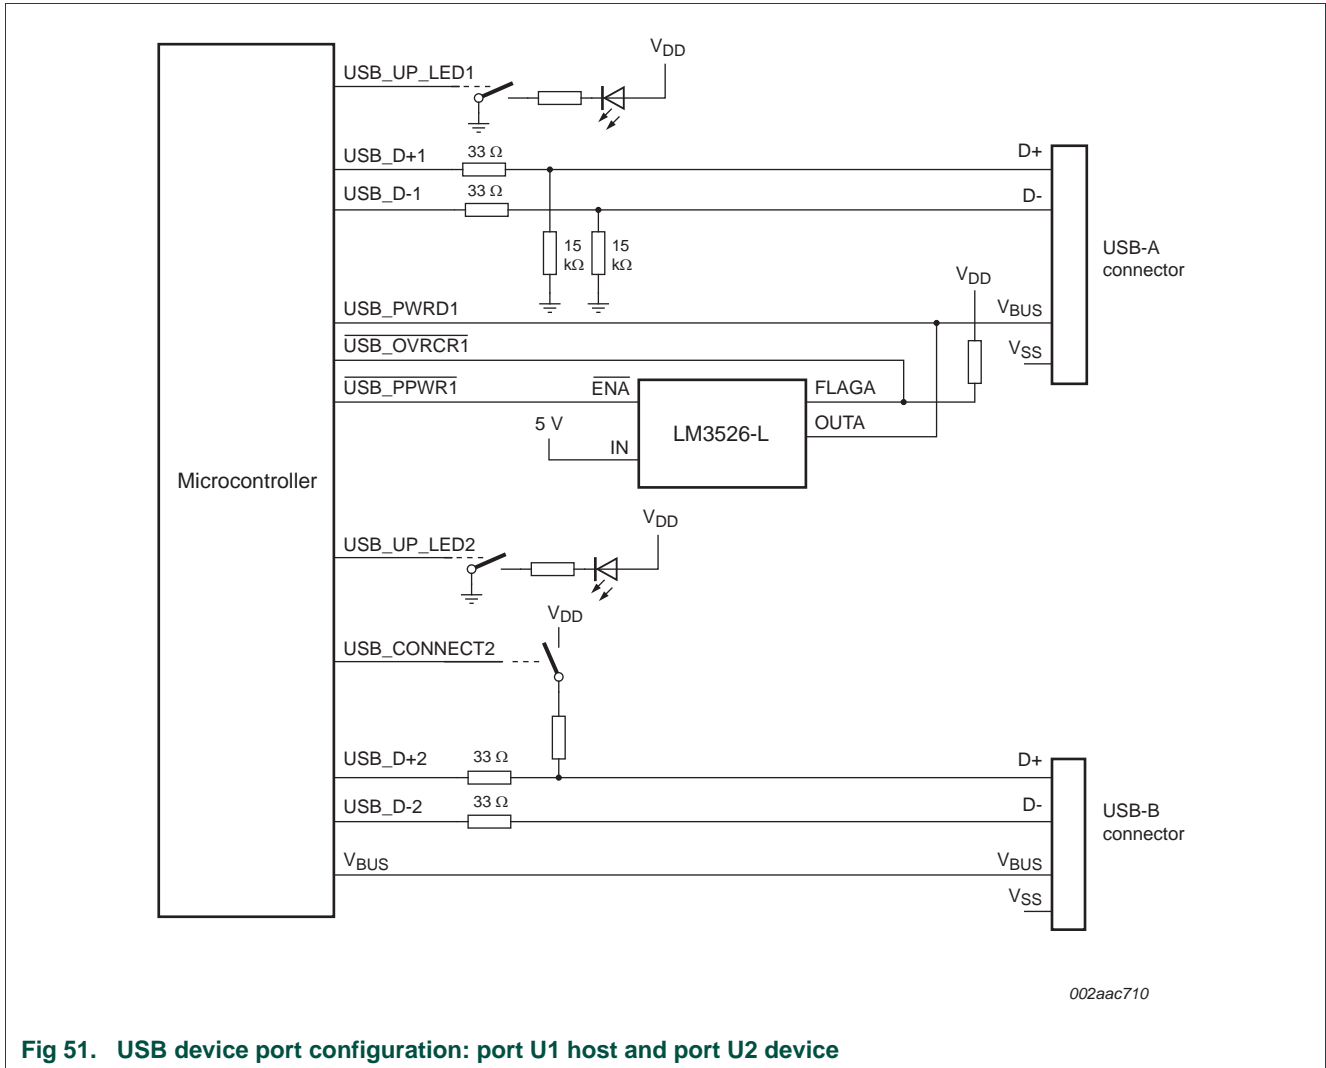

Fig 51. USB device port configuration: port U1 host and port U2 device
- One Host port and one Device port (see Figure 51)